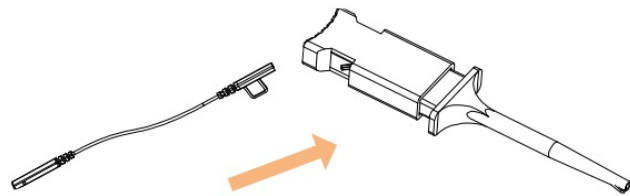

Figure 2
- Method two: on the basis of method one, you can connect a grabber to each lead and connect it to the device under test as shown in Figure 2.